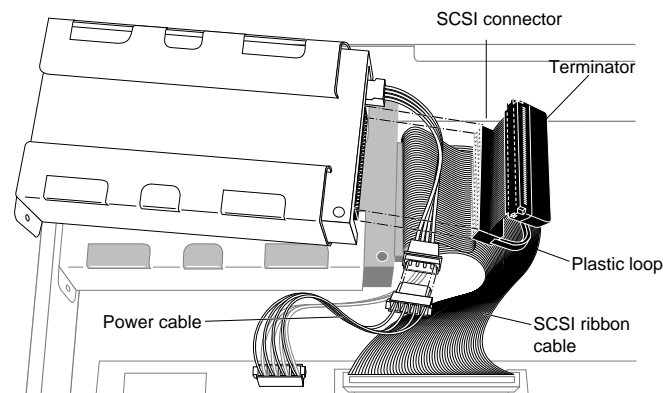

Figure 8-29 Disconnecting the Power and SCSI Cables From the Floptical Drive
- Disconnect the power cable connector from the drive, as shown in Figure 8-29.